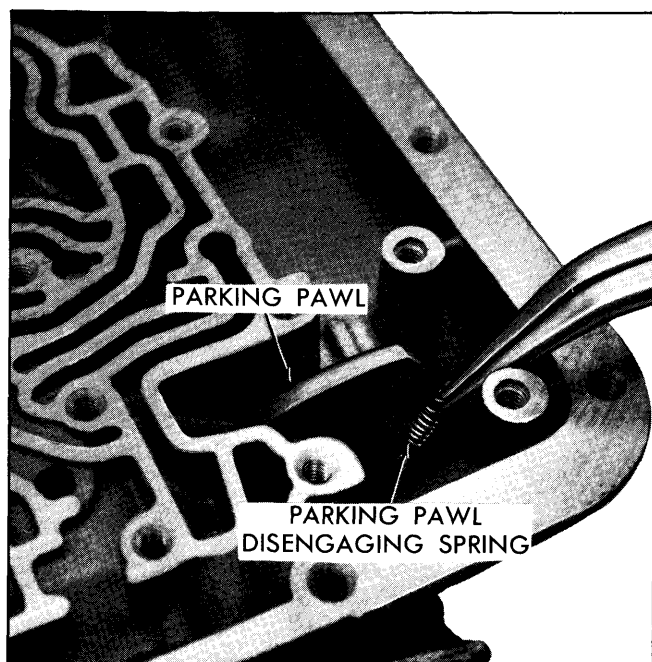

Fig. 7-30—Removing Parking Pawl Disengaging Spring
15. Remove parking pawl disengaging spring. (Fig. 7-30)